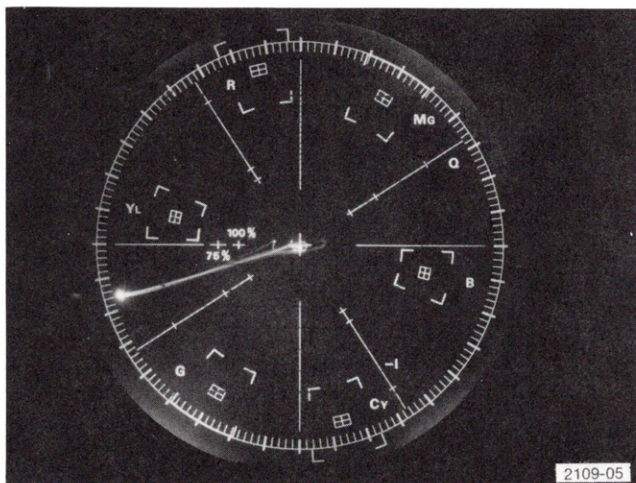

Fig. 4-2. Chrominance Bandpass Filter adjusted for best vector overlay.
b. Adjust—L938 and L948 (Chrominance Bandpass Filter) for best compromise between Fig. 4-2 and third order harmonics of -30 db or more.